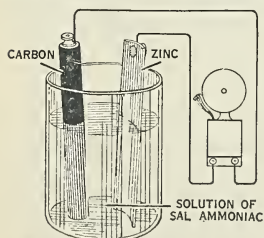

Fig. 276. An electric cell.
**What is a wet cell?** You can easily make a battery that gives an electric current from chemical energy. Mix in a fruit jar one part sal ammoniac (ammonium chloride) and four parts water. Then place in the jar a carbon rod, obtained from an old dry cell, and a strip of zinc so placed that they do not touch (Fig. 276). If you fasten a copper wire to the carbon and another to the zinc and connect these two wires to an electric doorbell, the bell will ring. Experiments show that the chemicals in the jar or cell produce a positive charge on the carbon rod and a negative charge on the strip of zinc. When these are connected by a wire running through the bell, a flow of electrons in the wire (an electric current) rings the bell. The electrical energy comes from the chemical
*Directions:* Fill the jar with a solution consisting of one part sal ammoniac dissolved in four parts of water. Fasten a wire securely to the carbon rod and another to the strip of zinc. (See Fig. 276.) Place carbon and zinc rods in the solution so that they do not touch. Connect both wires to your doorbell. What happens? Where does the energy required to ring the bell come from?